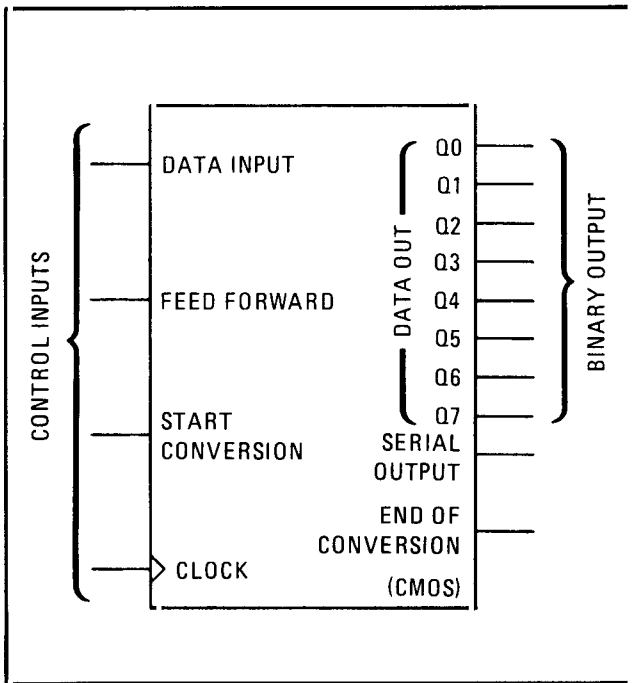

Figure 8-24. Successive Approximation Register (SAR)
**Successive Approximation Register (SAR).** Refer to Figure 8-24. Successive approximation as used in this instrument is a digital approach to negative feedback. The output signal is converted to digital form and is clocked into the SAR at the DATA input. The SAR output is tied to a Digital-to-Analog Converter (DAC). The DAC acts as an attenuator, thereby controlling the output amplitude directly. Several steps (approximations) are required to bring the output amplitude to the required level. At the end of the conversion cycle, the END OF CONVERSION output inhibits the clock input. This halts the data flow. The data output is maintained at the output just prior to the end of conversion. Start Conversion must be set high to begin the conversion cycle. Feed Forward allows the conversion to be halted before the cycle is complete.